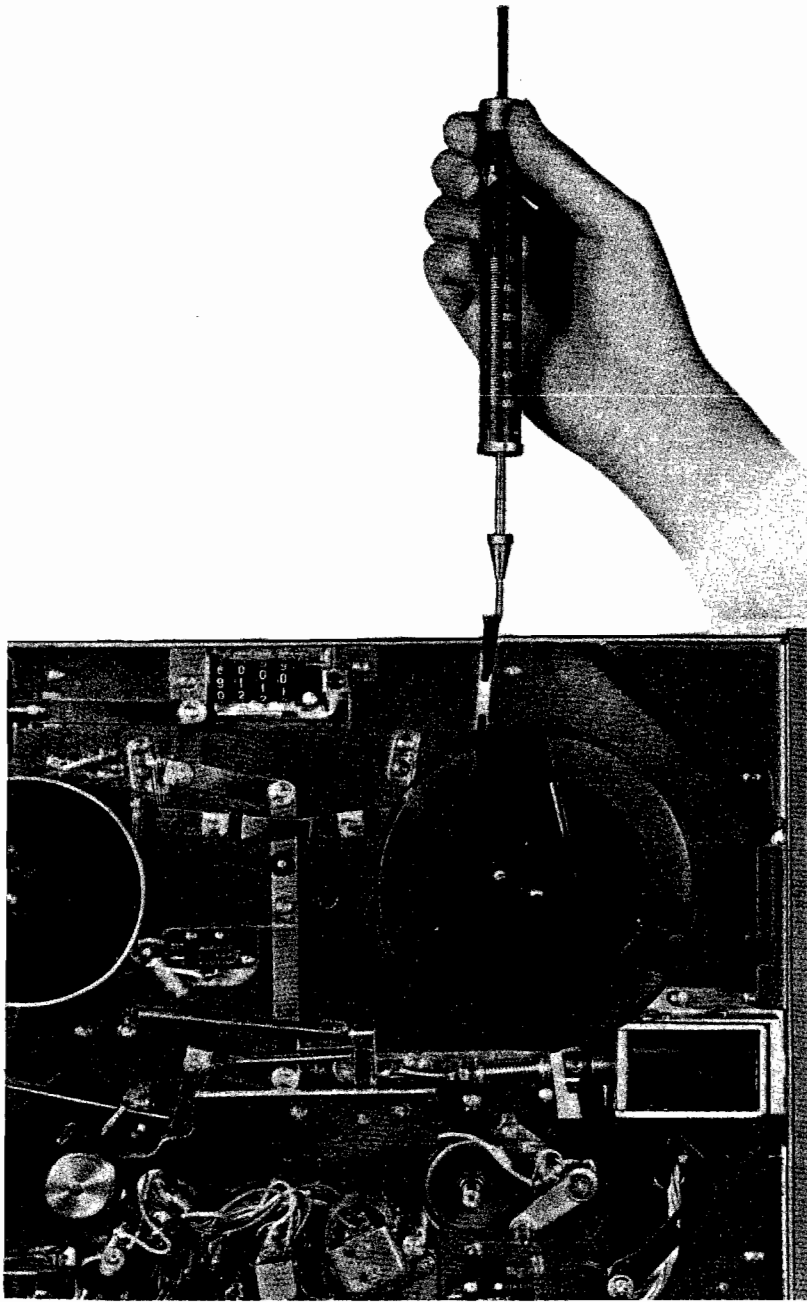

Fig. 22
For Brake Tension Measurement, use a 60 mm tape wound on a 5" reel and measure with a Tension Gauge. Standard tension is about 350 grams. Adjust Brake Tension by changing position of suspended springs (S 1 and S 2 in Fig. 22), loosening screws (A) and (B) and changing position of spring suspension metal (C), or loosening screws (D) (E) and changing position of F.
Caution : Following Brake Adjustment, confirm that the Brake Band does not touch the cloth tape on brake drum (See Fig. 22).